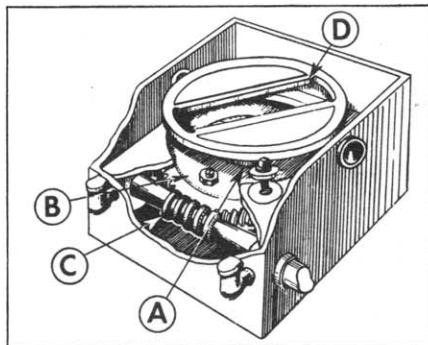

Fig. 1. No. 102 cam case without traverse bar and driver, showing exploded view of adjuster and worm wheel.
The traverse mechanism is actuated by a heart-shaped cam (A in Fig. 1) attached to the worm wheel (B). The worm wheel gets its motion from the worm (C) which is connected by gears to the driving shaft.